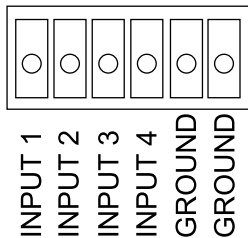

Figure 2: REMOTE PINOUT
3. Connect a remote unit², if required, to the *REMOTE* terminal block 6 pin connector, according to the PINOUT in Figure 2: